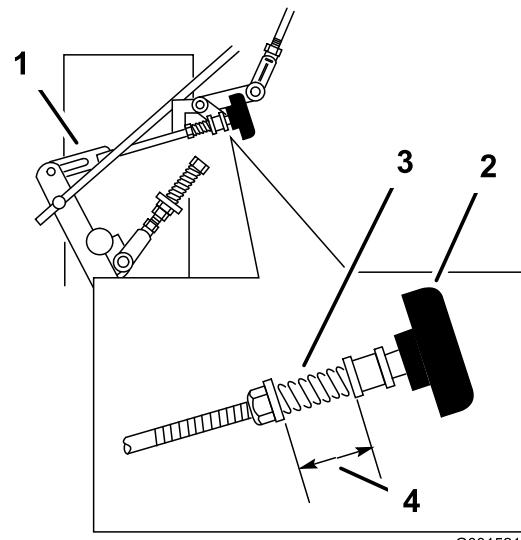

Figure 39
3. Adjust the right side linkage by turning the quick track knob counterclockwise until the tire begins to rotate forward (Figure 39).
4. Turn the knob clockwise $1/4$ of a turn at a time. Then move the speed control forward and back to neutral. Repeat this until right wheel stops rotating forward (Figure 39).
6. The spring that keeps tension on the knob should normally not need adjustment. However if an adjustment is needed, adjust the length of spring to 1 inch (26 mm) between the washers (Figure 39).
7. Adjust spring length by turning nut at front of spring (Figure 39).